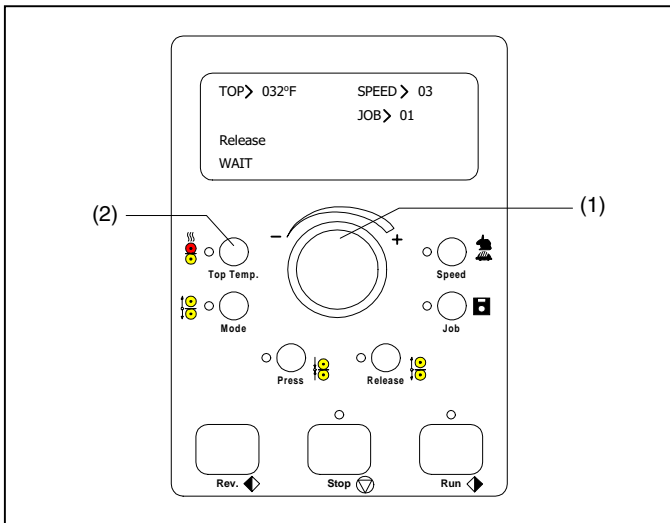

Fig.6
Displays the current main roller position. In figure 6, the roller is shown in the "Release" position. Refer to Roller Handle for more information.
**C. CONTROL PANEL:** (Figure 6)